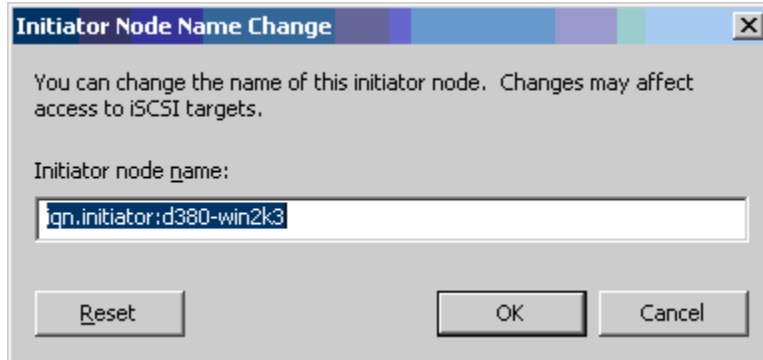

Figure 11-8. Changing the Initiator Node Name
3. In the Initiator Node Name Change dialog box (see Figure 11-8), type the initiator IQN name, and then click **OK**.